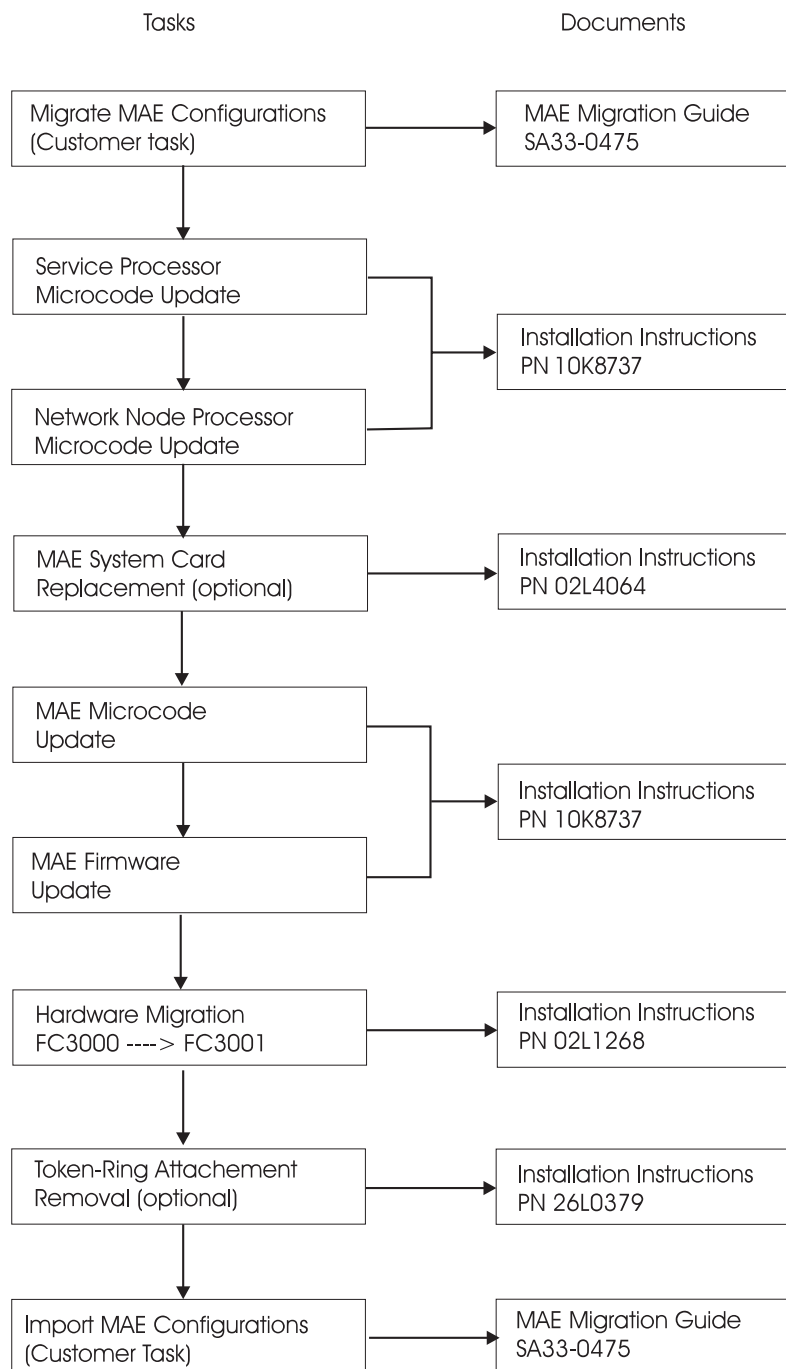

Figure 1. MAE FC 3000 to 3001 Migration Scenario
- Familiarize yourself with the purpose and details of the installation instruction before negotiating machine time with the customer (refer to Figure 1 on page 9).
If you are migrating a MAE from FC 3000 to FC 3001, refer to Figure 1 on page 9 to get the sequence of the installation tasks and the documentation to be used.